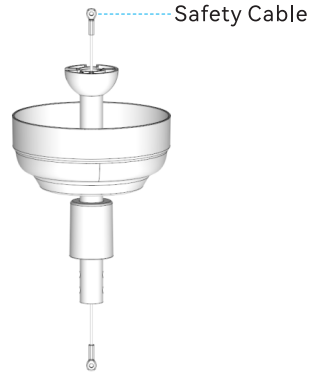

Fig. 5.1
5.1 Assemble the downrod as shown in Fig. 5.1. Insert the downrod through the canopy and wiring cover.